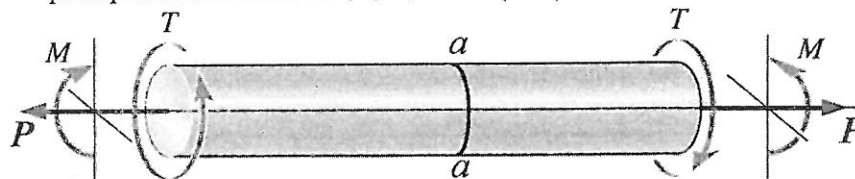

Fig. 4
4. The isotropic solid shaft shown in Fig. 4 has a radius of  $R$ , Young's modulus of  $E$ , and shear modulus of  $G$ . The solid shaft is subjected to a torque of  $T$ , a moment of  $M$ , and an axial loading of  $P$ . The cross-section  $a-a$  is far away from the loads.